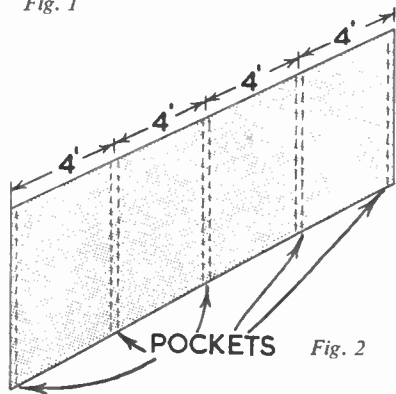

Fig. 2
a screw bolt of suitable size. The length of these bolts should not exceed $\frac{3}{4}$ in. or they prove difficult to get in position. First, in each leg, bore a hole through for the bolt to pass. The position of the hole is important, as the edge of the leg must butt up against the spring, as at (D), in Fig. 2, to prevent it shifting sideways. The distance given for the hole will, in most cases, be about correct, but it would be as well to test by laying the leg in position on the finger grip, and run-